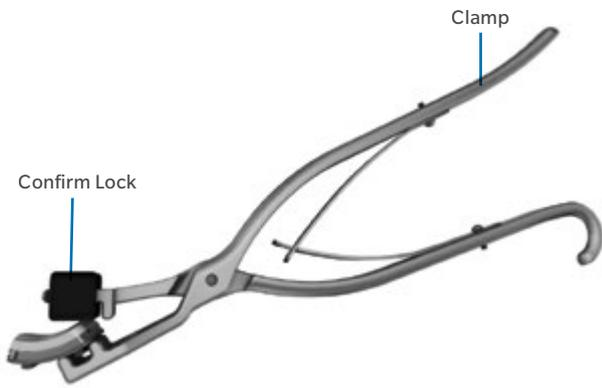

Fig. 89
- Clamp Tibial Poly Assembly Tool together, carefully ensuring that the articular surface is not damaged (Fig. 89).